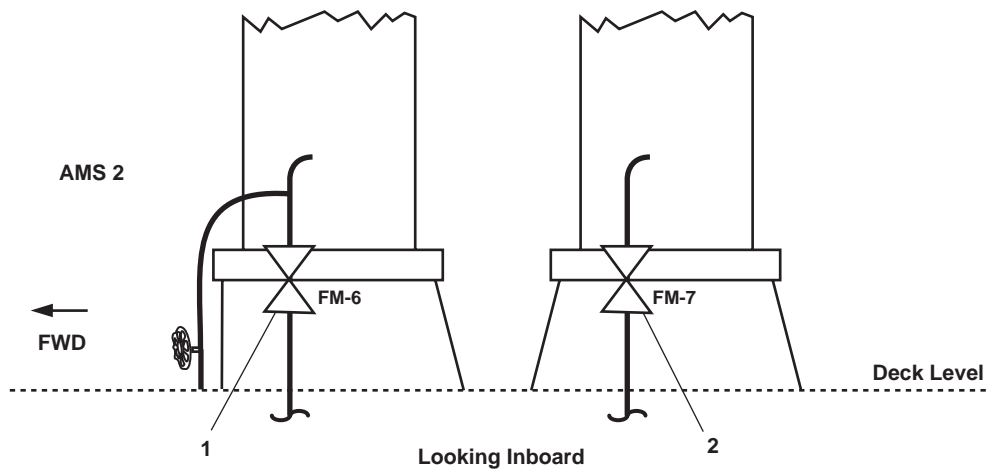

Figure 5. Fire and General Service Pump Suction Valves
- (6) FM-6, FIRE/G.S. PMP No. 1 SUCT (figure 5, item 1), fire and general service pump 1 suction.
- (7) FM-7, FIRE/G.S. PMP No. 2 SUCT (figure 5, item 2), fire and general service pump 2 suction.